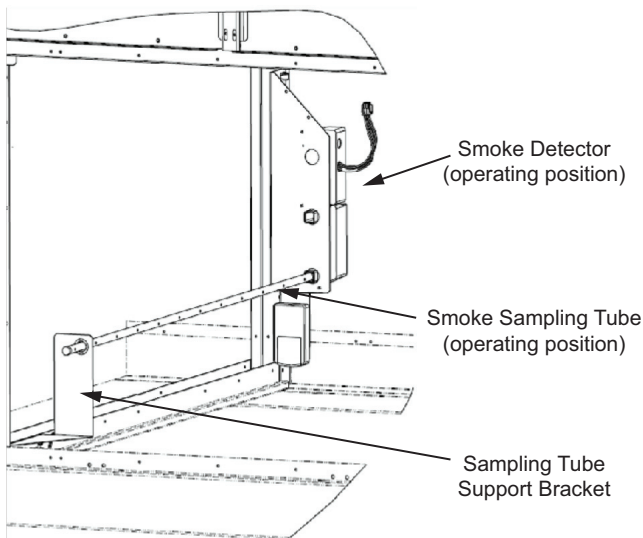

Fig. 47 — Smoke Detector Operating Position
3. Rotate the shipping bracket outward 90 degrees so that the smoke detector is in the operating position. The back of the detector should be facing the air stream (see Fig. 47).
5. Insert the closed end of the sampling tube into the sampling tube support bracket (see Fig. 47).